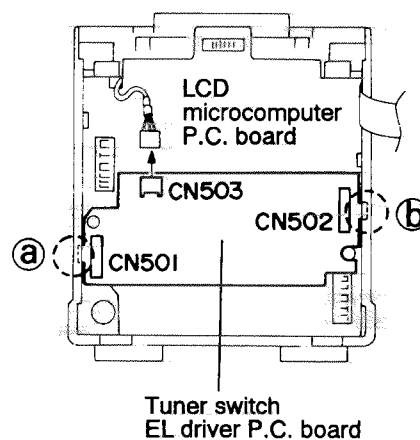

Fig. 5-20
4. After removing the knob from the front face of the body and two screws ⑫, dismount the volume escusion.
■ **Removing the tuner switch EL driver P.C. board and microcomputer P.C. board** (See Figs. 5-20 and 5-21)
2. • Remove the one screws (13).